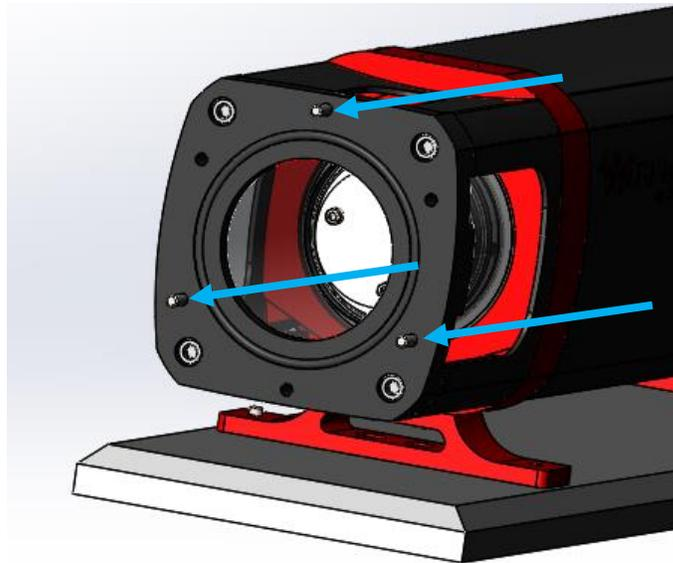

Figure 3 – Fasteners to mount the Pump Head
2. Place three #8-32x 7/8" fasteners in the clearance holes on the SuperPump shown in Figure 3 below.